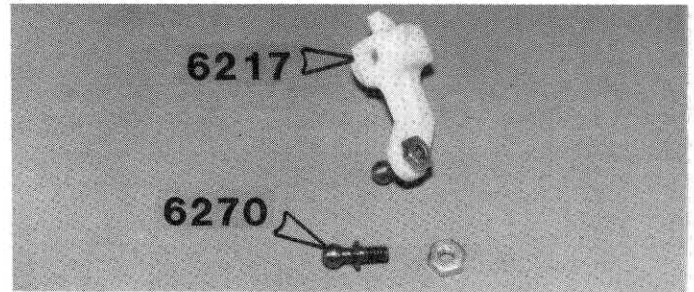

Fig. 10
□ **Fig. 10** Screw the short ball end #6270 into the #6217 steering block and secure it with the nut as shown. Assemble the right hand side, which will be inserted into the opposite side shown in Fig. 10.